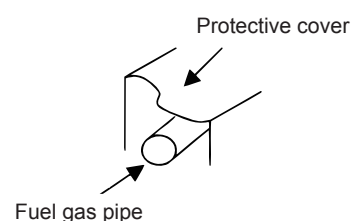

Fig. 12-2 Fuel pipe protection example
- \* In regions with heavy snowfall, take precautions to protect the fuel gas pipe path from snow damage (Fig. 12-2).